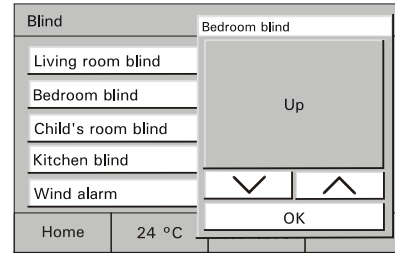

Fig. 10
- Operator dialogue, status display (Fig. 10)